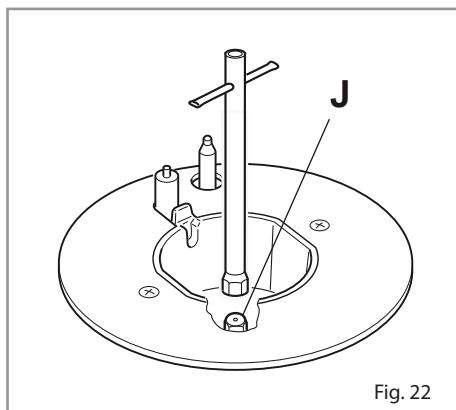

Fig. 22
- Using a wrench, substitute the nozzle injectors "J" (Figs. 22 - 23) with those most suitable for the kind of gas for which it is to be used.